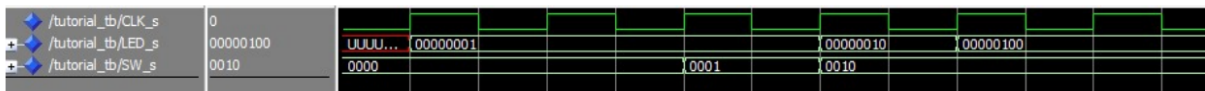

Figure 1
The next part of the lab walked us through how to build a test bench for our design and how to run a simulation that is suitable. Again, we were given a test bench already and were just asked to load it in and walked through how to set up the simulator. Figure 1 refers to the simulation from the lab.
As shown on Figure 1, on the rising edge of the clock (first wave) if there is any change in the behavior of the switch inputs (third wave), the output on the LED's (second wave) gets changed accordingly. This is why the output doesn't follow the input immediately, the process was designed in that way. Whenever we modify the test bench to have SW(3) driven to '1', we have the change on the output wave we expect, '00000000.'